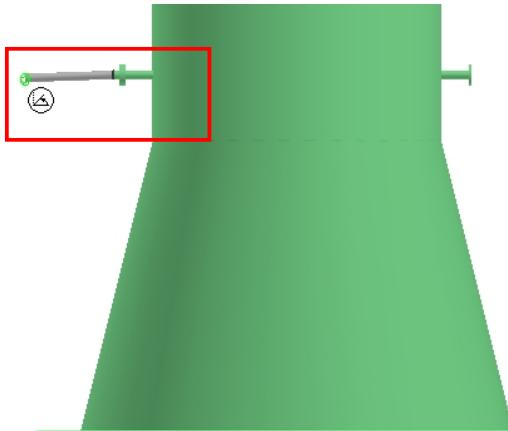

Figure 53: Placed Pipe
8. You now see an outline of a pipe in your model. On the **Route Pipe** ribbon, select the **Plan-Plane** option from the **Plane** drop-down list and key in **2 ft** in the **Length** field. Click in the graphic view to place the pipe, as shown in Figure 53.